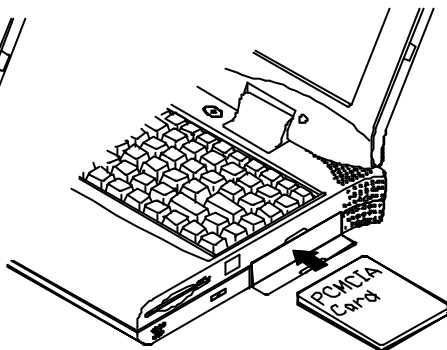

Figure 2-16.2
- Align the PC card with the slot and push it in firmly until it locks into place (Figure 2-16.2).